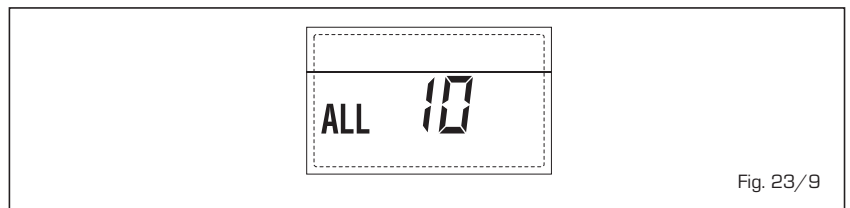

Fig. 23/9
- **ACTIVATION OF THE "ALL 13" EXHAUST FUMES PROBE (fig. 23/10)**